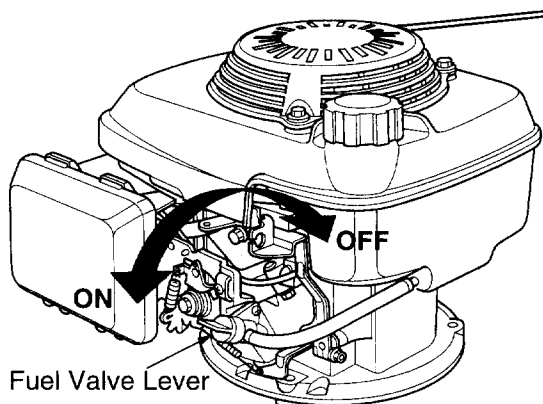

Figure 8
- Make sure the fuel valve lever found on the left side of the engine is in the ON position. See Figure 8 .